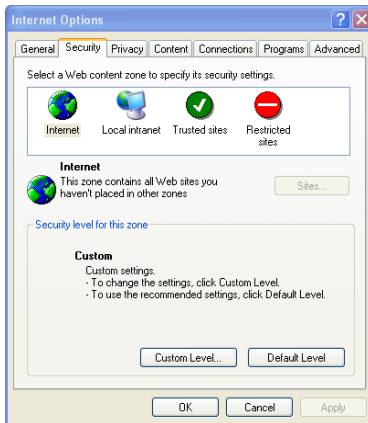

Fig 8-1
① Open IE browser. Click Tools-----Internet Options....
② select Security-----Custom Level....Refer to Fig 8-1.